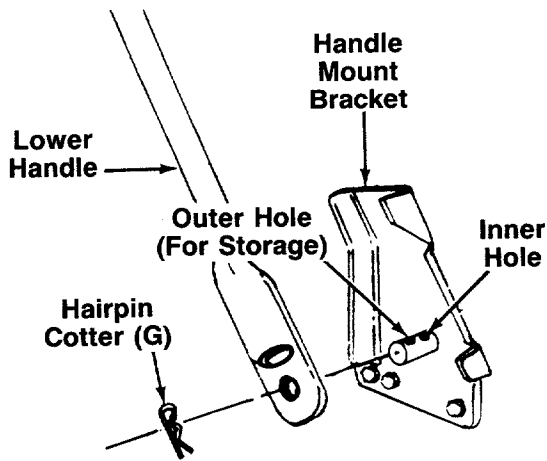

FIGURE 2.
- Place lower handle in position over weld pins in handle mount brackets on deck. Make certain the instruction label on the lower handle can be read from the operating position. Secure by placing two hairpin cotters (G) in inner hole on weld pins. See figure 2.